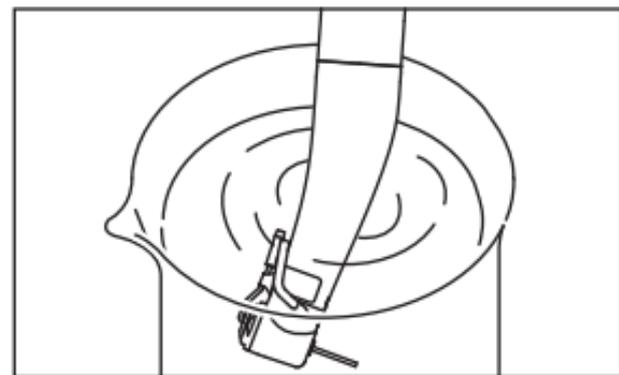

Fig. 13
- 4) Remove the irrigation tube. Immerse about 20mm of the handpiece head in water then rotate the handpiece in forward and reverse rotation at maximum rotation speed for about 15 seconds. (Fig. 13)